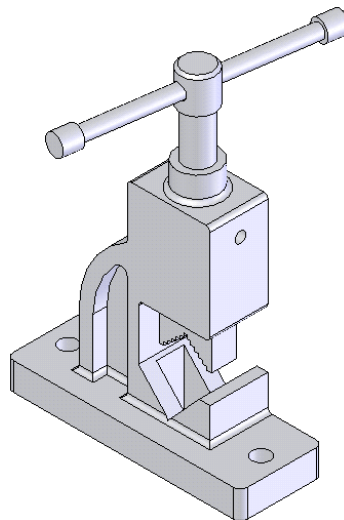

Figure 10-81 Final pipe vice assembly
- Place the other components in the assembly and apply the required mates to the assembly, refer to Figure 10-81.
Similarly, assemble the other components of Pipe Vice. Figure 10-81 shows the final pipe vice assembly.